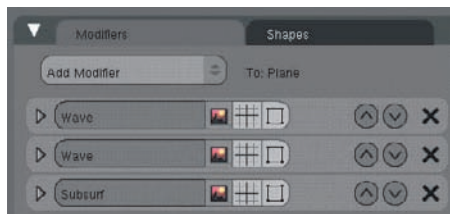
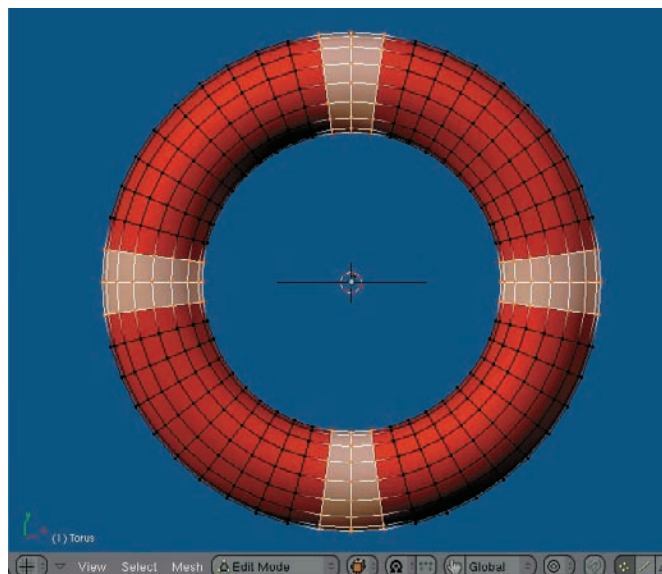

Figure 1.49 Modifiers set to display only when rendered
Figure 1.50 A life ring
11. When you're satisfied with the water, set the modifiers on the plane not to display in the 3D view mode, as shown in Figure 1.49, so that the plane appears perfectly flat. Snap the cursor to the plane again, go into top view, and add a torus by pressing spacebar and choosing Add > Mesh > Torus. The default settings and size are just fine as they are. Add a white and a red material to the object, as shown in Figure 1.50, to make a simple life ring.